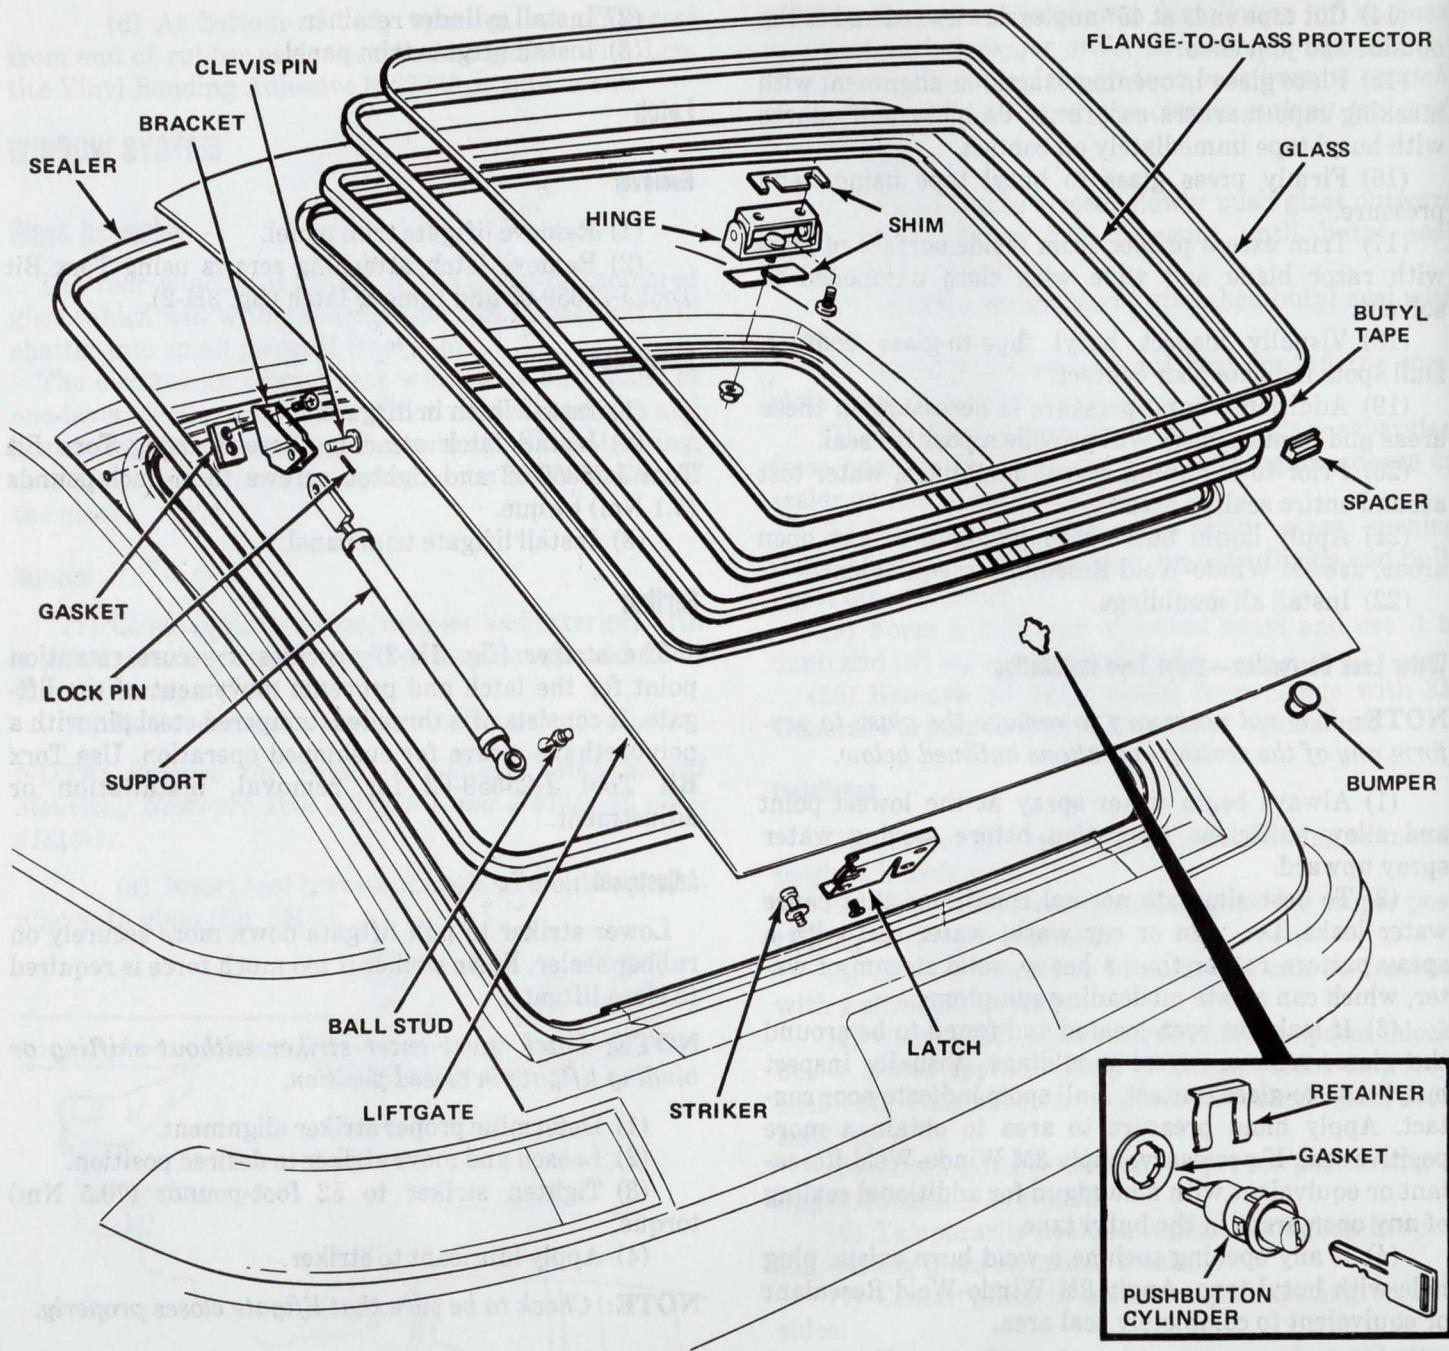

Fig. 3H-2 Pacer Hatchback Liftgate Components
WARNING: Never remove supports with liftgate closed. The supports contain high pressure gas and may cause damage or personal injury if removed with liftgate closed. After removal, do not attempt to dismantle or repair the supports. Refer to figure 3H-3 for specific instructions for disposal
- (2) Remove ball stud retainer (fig. 3H-2).
- (3) Pull support off ball stud attached to liftgate.
- (4) Remove lockpin and clevis pin attaching support to bracket. Remove support.
For specific disposal instructions, refer to fig. 3H-3.